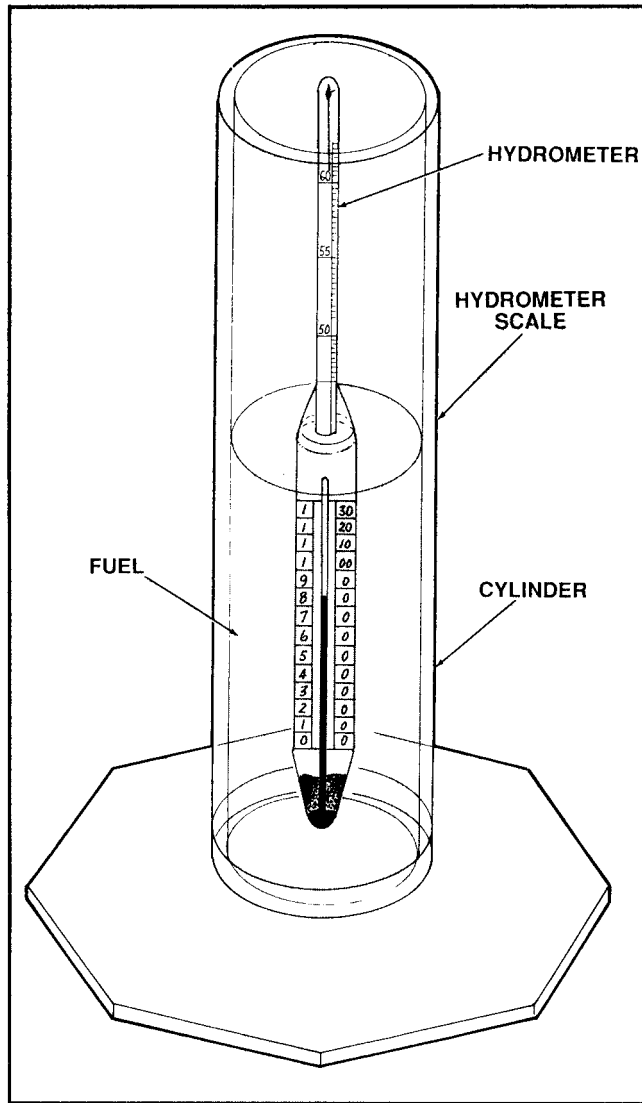

Figure 2.18 Hydrometer Scale within Fuel Cap
- b.** Select a hydrometer which allows the scale to fall **within** the fuel cap (Figure 2.18). Place the hydrometer into the cylinder giving it a slight twist as you release it into the fuel.